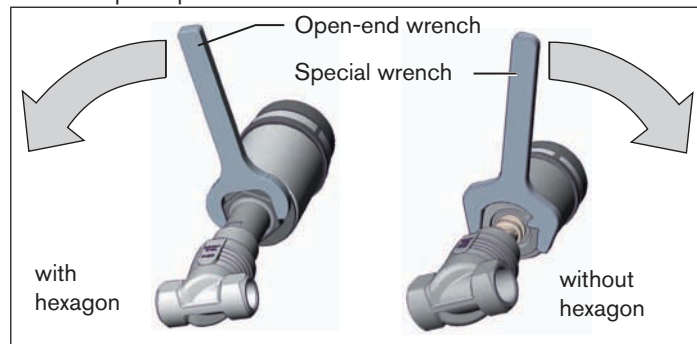

Fig. 13: Rotating with special key / open-end wrench
- Rotate the actuator module in the specified direction only (see "Fig. 13")!